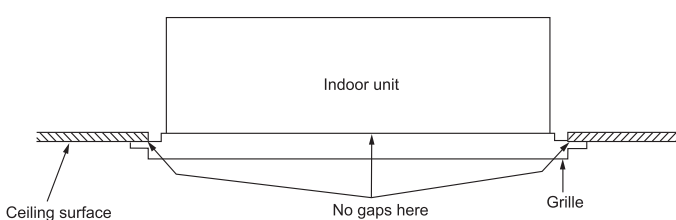
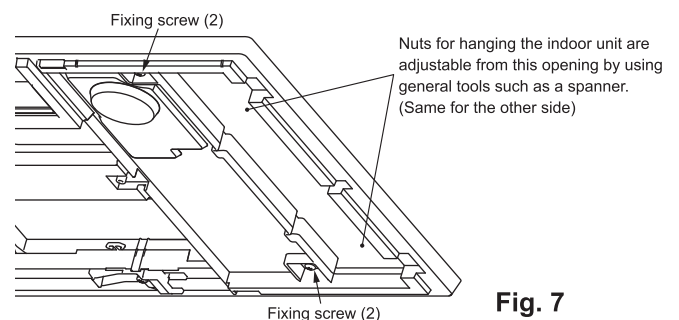

Fig. 6
Fig. 7
8. Tighten the 4 fixing screws (2) near the corners installed in step 6.
- (Fig. 6)**
- Note: Make sure that the fixing screws (2) and (3) are tightened completely.
- Clear the gap by adjusting the installation height of the indoor unit with the grille installed. (Fig. 7)